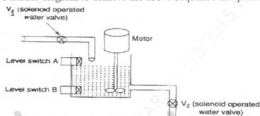

Figure 1
A Process tank shown in Figure 1 is sequenced to mix liquid fertilizer (12) according to following sequence of operation.